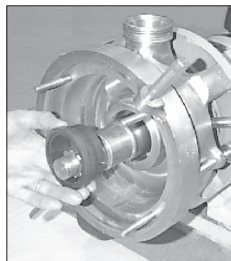

Figure 13
9. Remove the seal assembly from the shaft. (See Figure 13.)